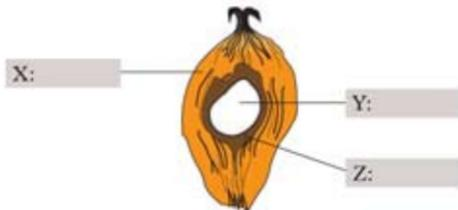

Figure 3
3. Figure 3 shows a cross section of an oil palm fruit.